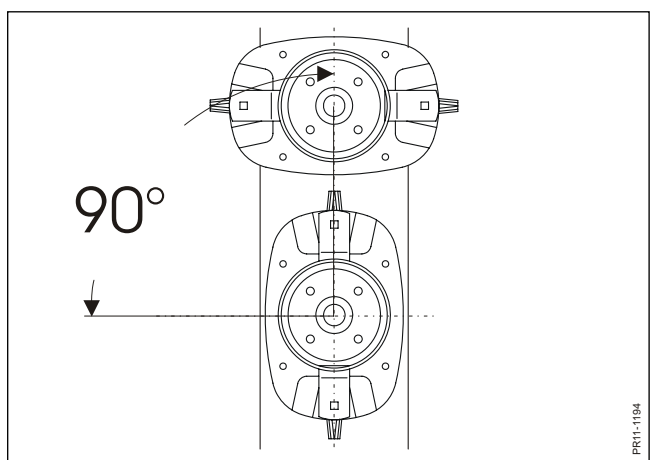

Fig. 5-13
- Fig. 5-13** If discs have been dismounted they must be mounted again staggered 90° in relation to each other.